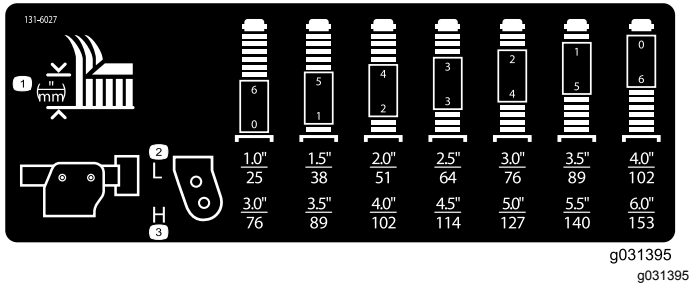

Figure 20
3. Position the caster-wheel axles in the same holes in all of the caster forks; refer to the chart to determine the correct holes for the height-of-cut setting (Figure 20).